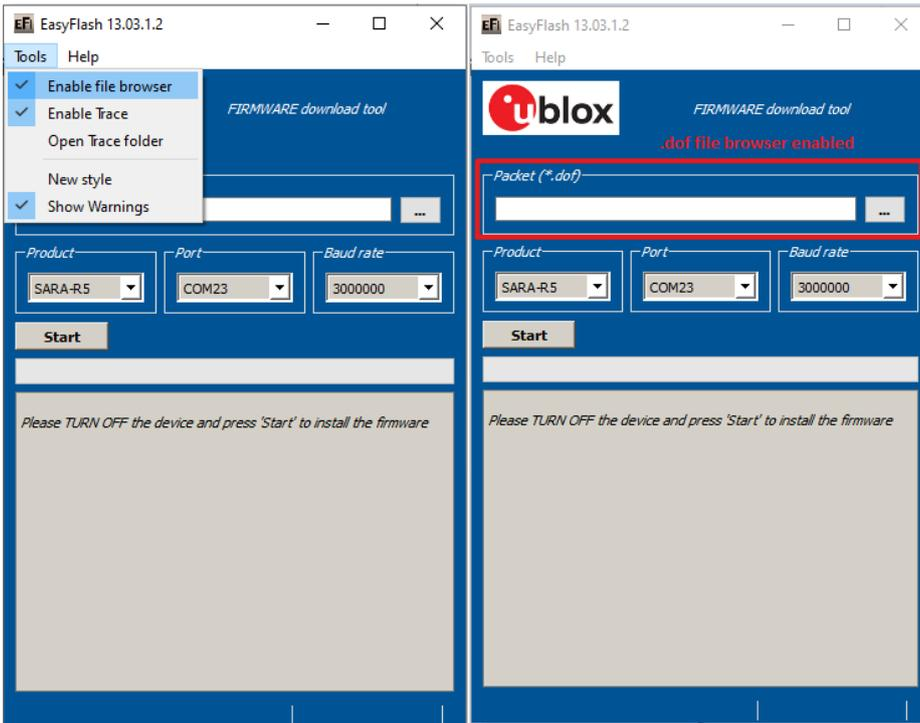

Figure 7: Enable file browser and select the ".dof" file path
2. Alternatively, check **Enable file browser** to use a .dof file in a different (see Figure 7).
- "Enable trace" from main menu is ticked by default. Make sure it is on (see Figure 7). This will create a log per flash attempt. It is useful if something goes wrong, and it is needed to report the issue.